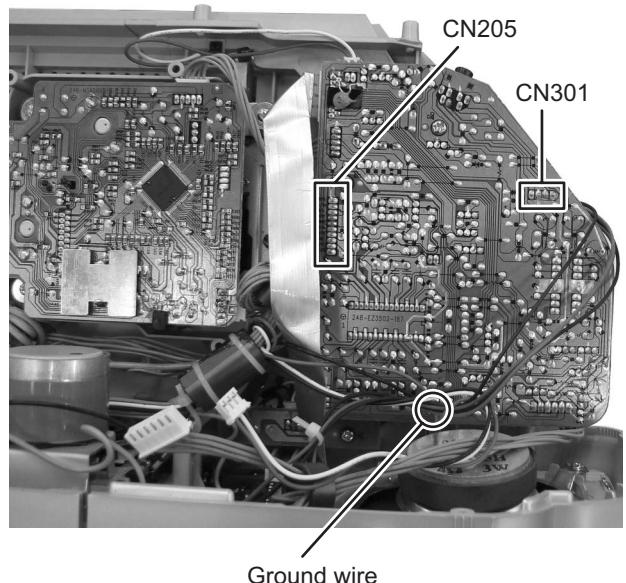

Fig.5
(See Fig.5, 6)
- (1) Disconnect the connector wire from Cassette mechanism assembly connected to connector CN205 of the Amplifier board assembly. (See Fig.5)
- (2) Disconnect the connector wire from speaker connected to connector CN301 of the Amplifier board assembly. (See Fig.5)
- (3) Remove the solder the ground wire from Cassette mechanism assembly soldered to Amplifier board assembly. (See Fig.5)